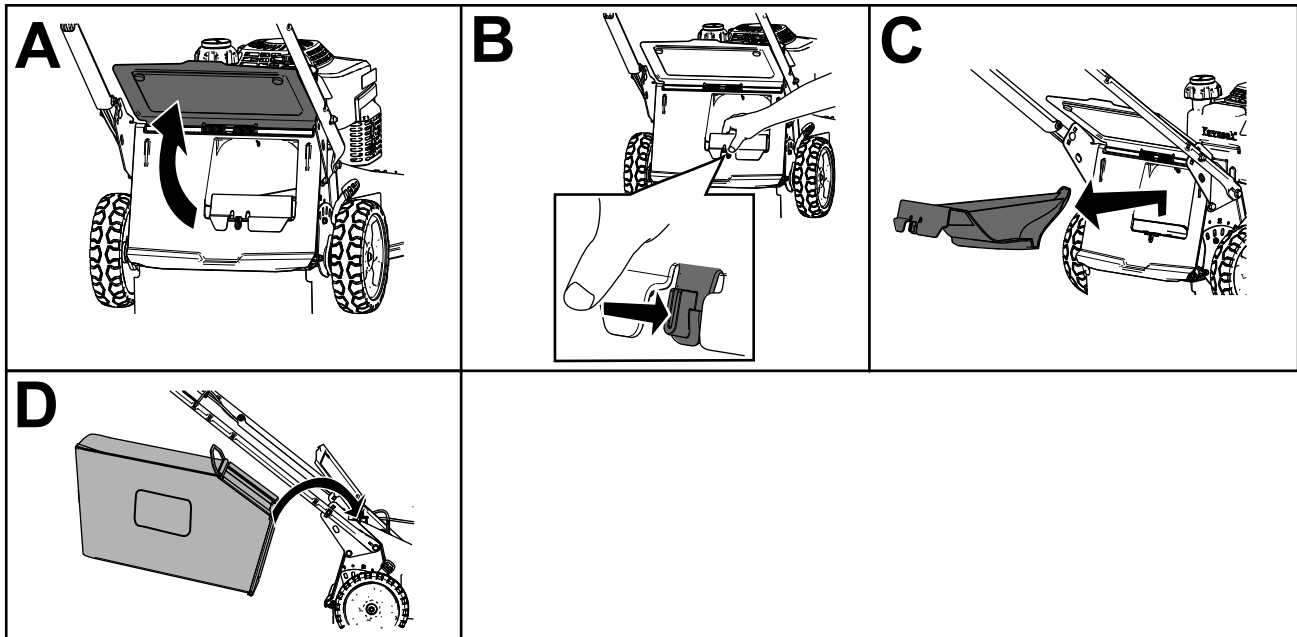

Figure 18
2. Raise and hold up the rear deflector (A of Figure 18).
3. Remove the rear-discharge plug by pushing in the latch with your thumb and pulling the plug out from the machine (B and C of Figure 18).
4. Install the bag-rod ends into the notches at the base of the handle, and rock the bag back and forth to ensure that the bag-rod ends are seated at the bottom of both notches (D of Figure 18).